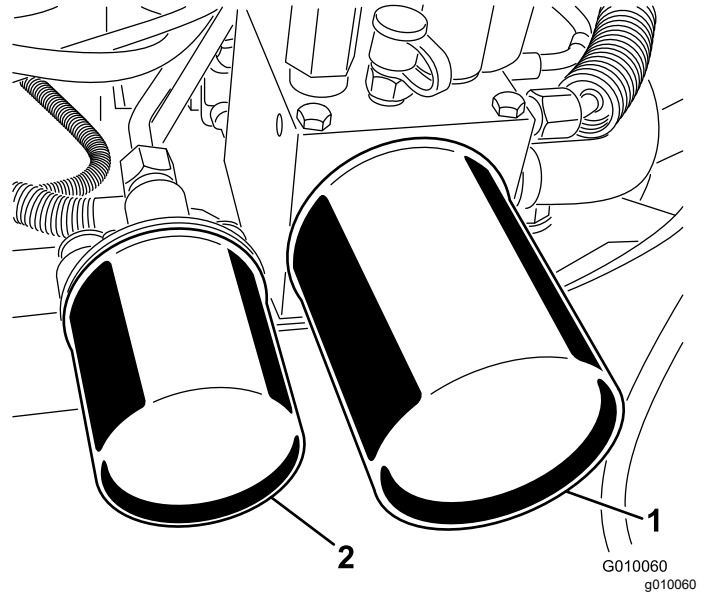

Figure 64
2. Place a drain pan under the filters, remove the old filters, and wipe the filter adapter gasket surface clean (Figure 64).